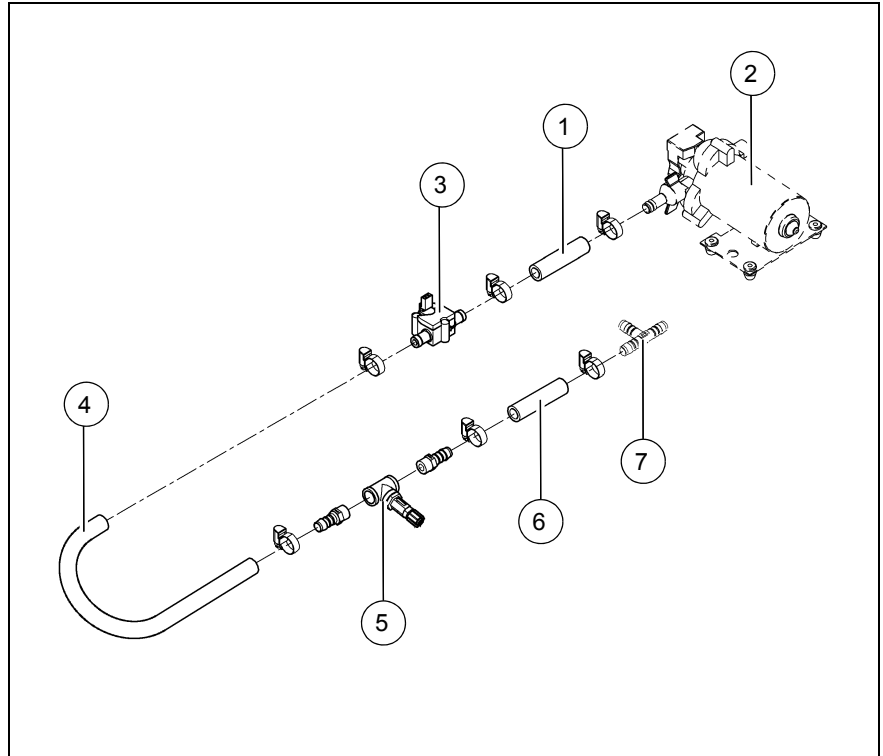
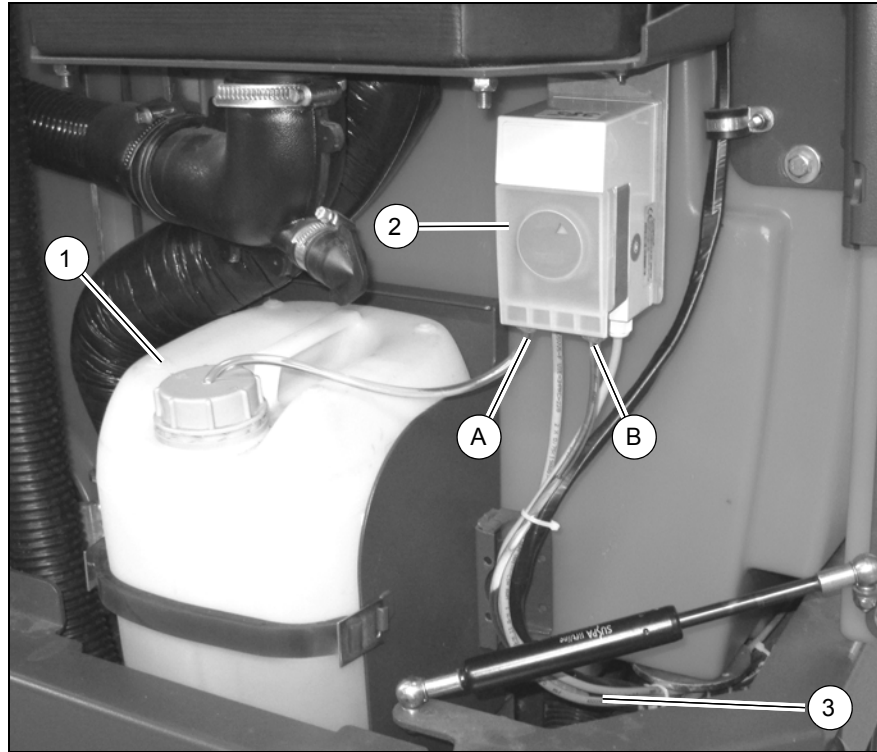

Fig.4
Fig.5
1. Assemble the water hose, (Fig. 4/1) = 80 mm, between the water pump (Fig. 4/2) and flow meter (Fig. 4/3).
3. Assemble the water hose, (Fig. 4/4) = 240 mm, between the flow meter (Fig. 4/3) and non-return valve (Fig. 4/5).
4. Assemble the non-return valve (Fig. 4/5) using screw-in sockets and hose clamps.
5. Assemble the water hose, (Fig. 4/6) = 80 mm, between the non-return valve (Fig. 4/5) and T-piece for the tool connection (Fig. 4/7).
1. Drill a 6 mm diameter hole in the canister cap (Fig. 5/1) for the dosing hose.
3. Shorten the dosing hose leading from the canister (Fig. 5/1) to the dosing pump (Fig. 5/2) (input=A) to 600 mm and fix with cable clips.
4. Cut the dosing hose leading from the dosing pump (Fig. 5/2) (output=B) to the non-return valve (Fig. 4/5) to 1720 mm.
5. Lay the hose together with the cabling (Fig. 5/3), below the der underlay of the hopper along the longitudinal support of the frame.